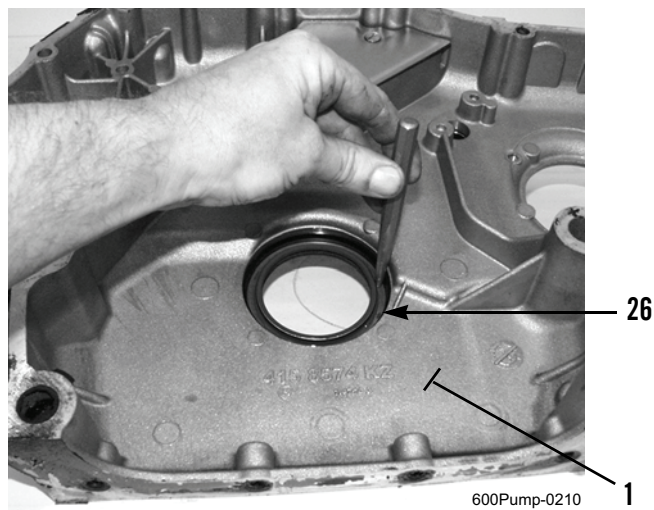

Figure 6. Front Main Seal.
- a. From inside front cover (Figure 6, Item 1), force front main seal (Figure 6, Item 26) outward to remove it. Discard front main seal.